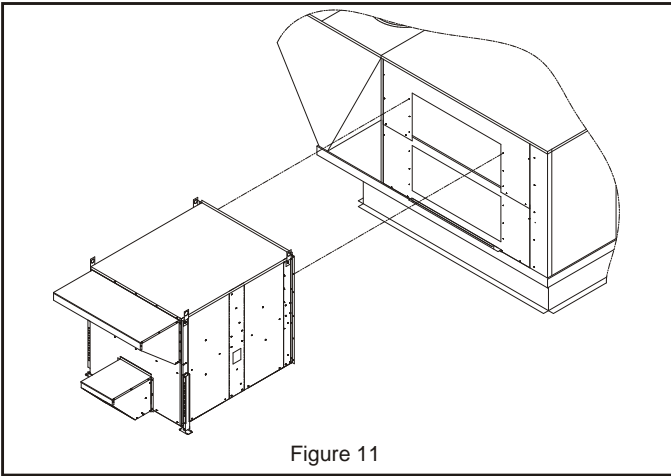

Figure 11
- Lift and move ERS unit into position in front of horizontal exhaust air opening. **See Figure 11.**